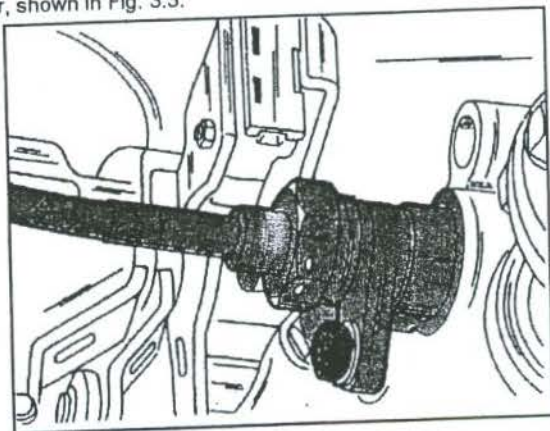

Fig. 3.2 – Speedometer drive cable attachment.
- Detach the cable plug from the reversing light switch and remove the speedometer drive cable (remove one bolt, shown in Fig. 3.2).